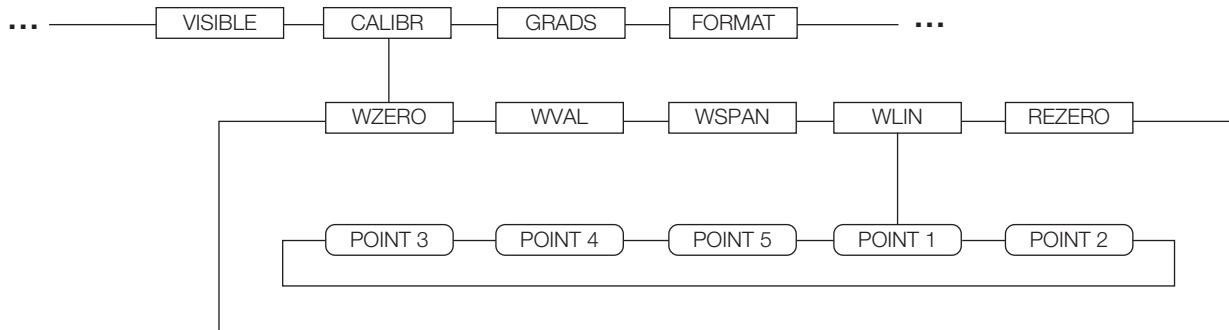
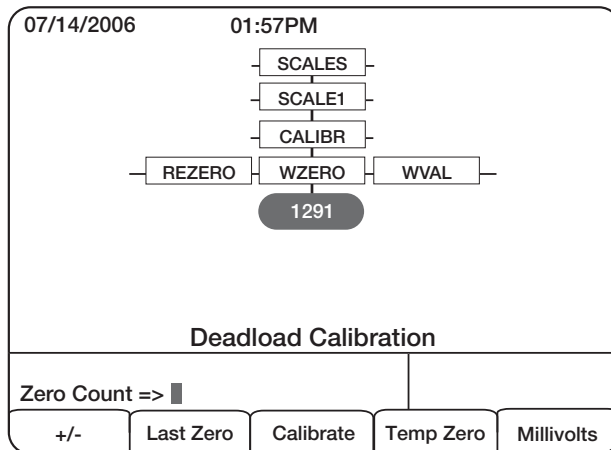

Figure 4-1. Calibration Submenu
Figure 4-2. WZERO Calibration Display
The **CALIBR** submenu (under the **SCALES** menu, see Figure 4-2) is used to calibrate the 920i. The zero, span, and linear calibration point displays provide a set of softkeys used specifically for calibration procedures:
2. With the **SCALES** menu highlighted, press the **down** key, then select the scale to be calibrated. Press **down** again (**GRADS** parameter highlighted), then press **left** to highlight the **CALIBR** submenu (see Figure 4-1). Press **down** to go to zero calibration (**WZERO**). See Figure 4-2 on page 56.